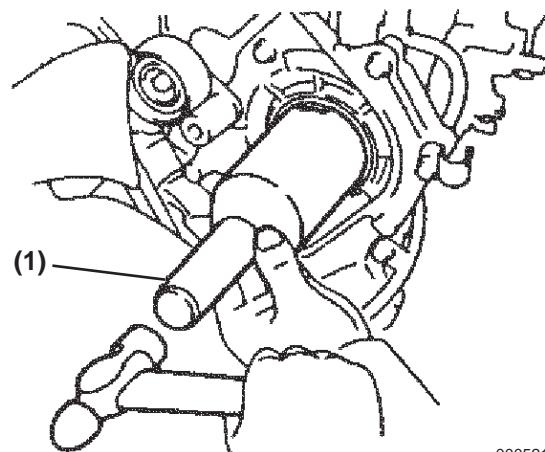

Figure 5-210
4. Tap in the new oil seal to install using a suitable tool (**Figure 5-210, (1)**) until the seal surface is level with the timing gear cover.